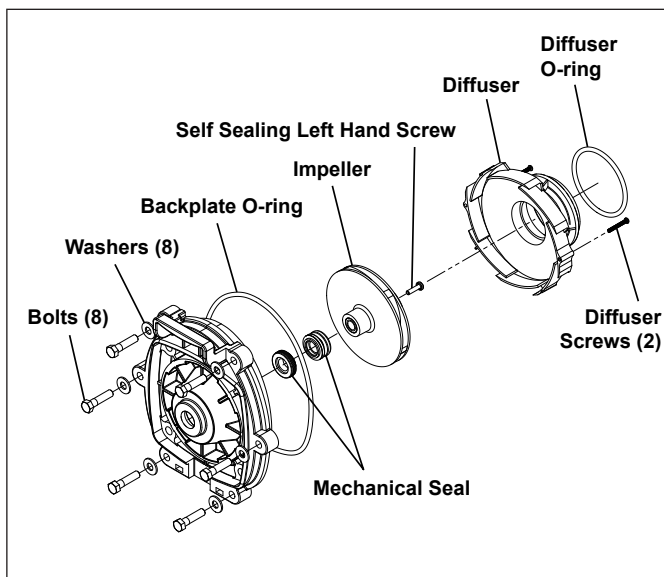

Figure 16. Diffuser and Impeller Exploded View
1. Press the new carbon face seal half (see Figures 16 and 17) on the motor shaft using a twisting motion. Make sure the carbon surface is facing toward the ceramic ring in the backplate.